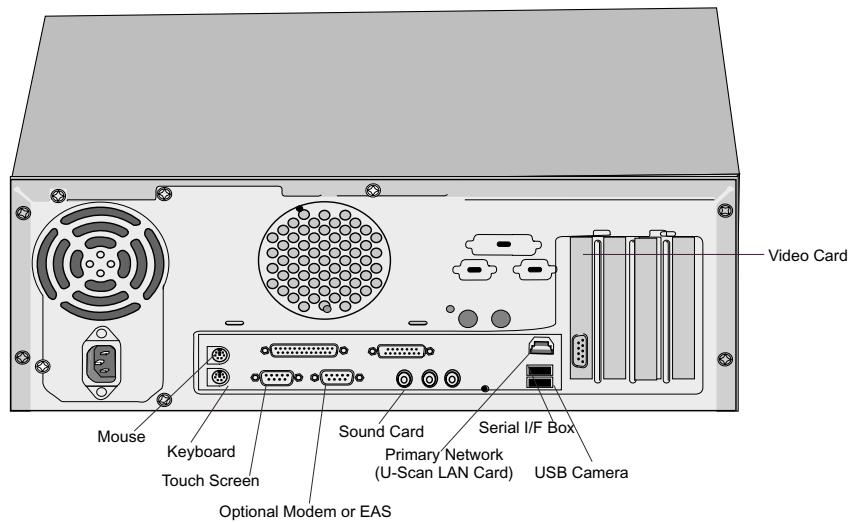

Figure 3.3 Attendant Station Computer and Serial I/F Box connections
2. Plug the 9 pin (female) connector into the Touch Screen Control port on the back of the Attendant Station's Computer. See Figure 3.3.
5. Plug the POS Keyboard into the Attendant Station Computer. See Figure 3.3.